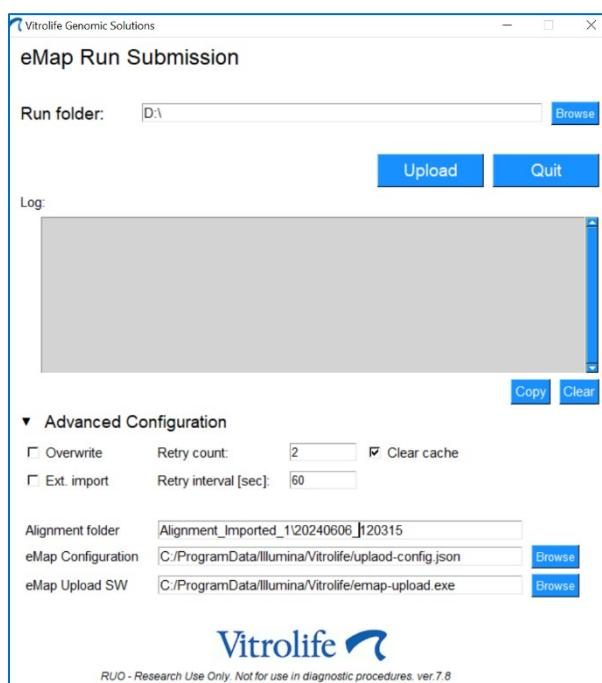

Figure 10: eMap-upload-interface.exe User Interface
1. Open the *eMap-upload-interface.exe* software and use the  button select the Run Folder to be manually uploaded to eMap for analysis (Figure 10).